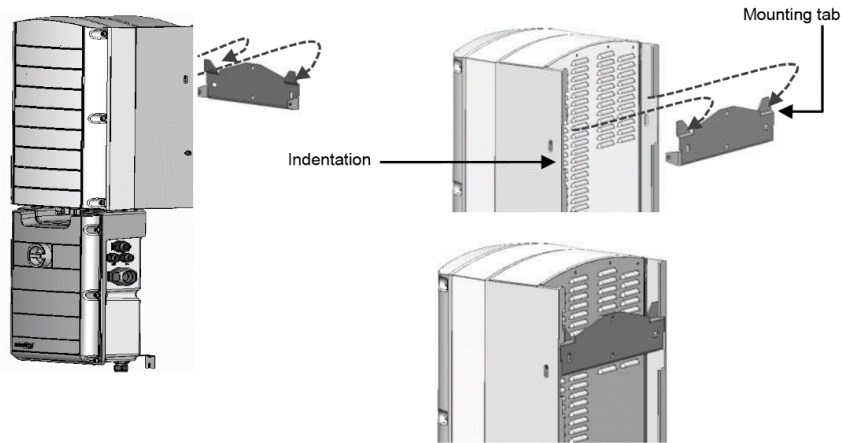

Figure 2: Hanging Units
- b. Align the two indentations in the enclosure with the two triangular mounting tabs of the bracket, and lower the unit until it rests on the bracket evenly (see Figure 2).
- d. Align the two indentations in the enclosure with the two triangular mounting tabs of the bracket, and lower the unit until it rests on the bracket evenly (see Figure 2).